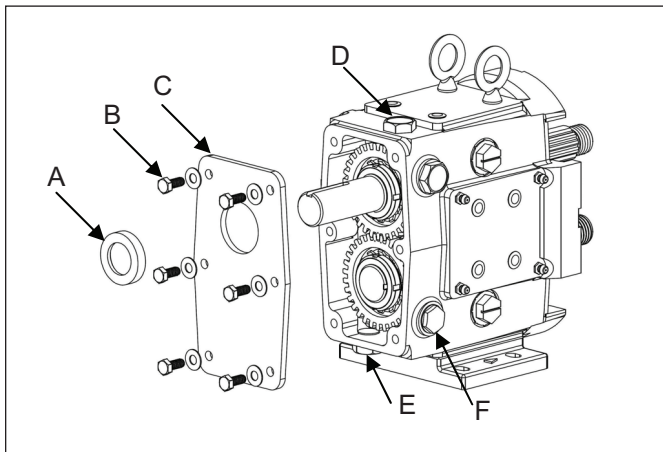

Figure 29. Gear Case Disassembly (Gear Case Cover)
1. Remove the pump head as described on *page 21* (Pump Disassembly). Remove the bottom oil plug and drain the oil from the gear case (remove oil fill plug for faster drain). Remove the six hex head cap screws and washers from the gear case cover and slide the cover off the drive shaft (*Figure 29*). If the cover is stuck, use a soft mallet to tap around the edges until it breaks free. Using a straight edge remove the liquid gasket used to seal the cover to the gear case. Remove and discard the oil seal from the cover using an arbor press.